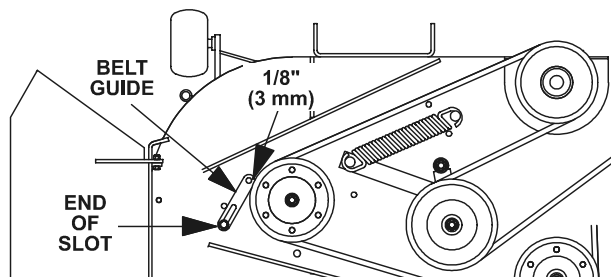

FIGURE 15
- c) Locate belt guide bolted to deck near the shield support stud and right-hand pulley. Guide should be $1/8''$ (3 mm) away from the belt, with bolt-end of guide near end of slot (See Figure 15).